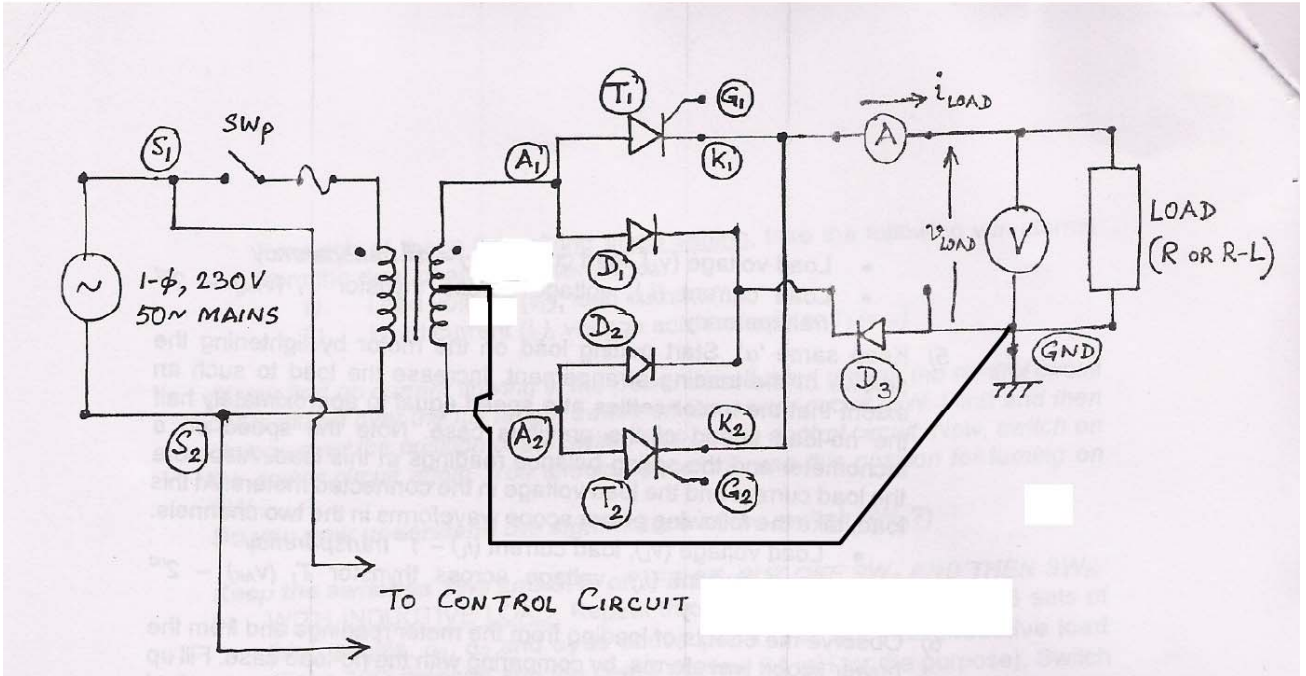

FIG.1.1a: POWER CIRCUIT OF THE 1- ϕ THYRISTORIZED FULL-CONTROLLED RECTIFIER WITH RESISTIVE OR RESISTIVE-INDUCTIVE LOAD.
Refer to Figs. 1.1a, 1.1b for understanding the power circuit of the converter.
- a) WITH RESISTIVE LOAD: Complete the wiring of the power circuit with resistive load (70Ω), as per Fig. 1.1a. Connect voltmeter, ammeter as shown. Keeping the load constant, switch on SW_C first. Turn the potentiometer knob such that the pot output with respect to logic ground is negative maximum. Now, switch on SW_P . Vary the pot for setting different firing angles. Fill up table 1.1 (All columns except the column marked 'calculated') for three values of firing angles, say, α_1 , α_2 and α_3 . For any one firing angle setting, (ask the teacher), take the following waveforms from the **dual channel** power scope, in one particular transparency: